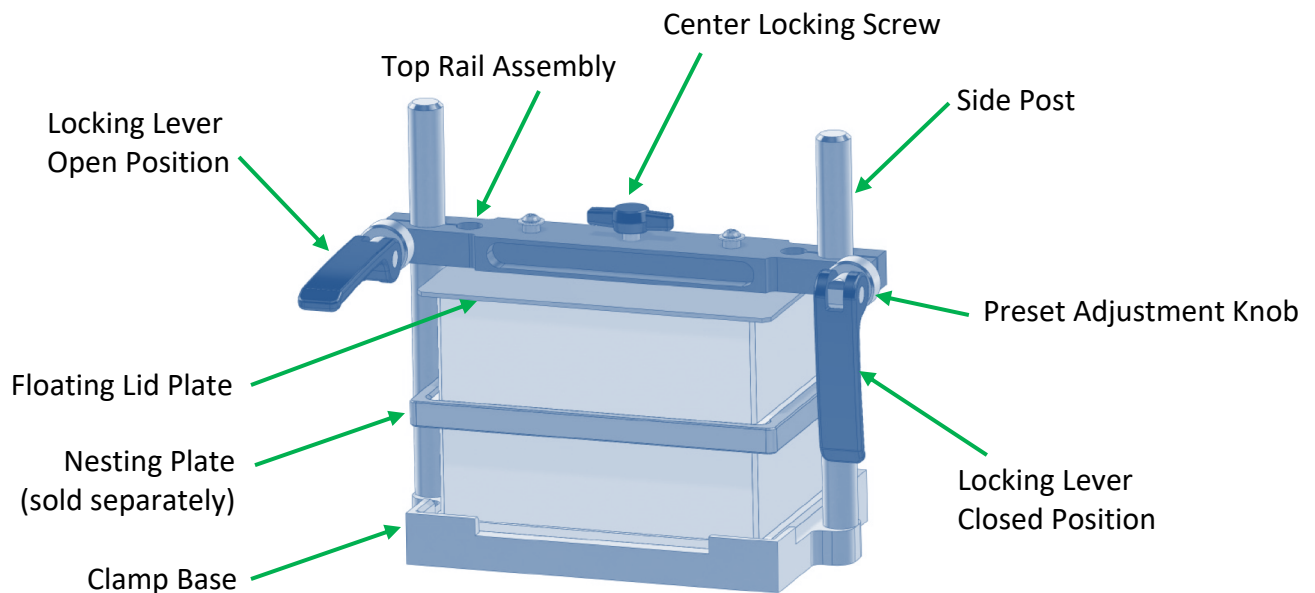

Figure 3 – Loading Titer Plates
The HG-400 MiniG[®] is supplied with an adjustable clamp that can accommodate 1-2 titer plates or 1-2 trays of small vials. Follow the clamp loading procedure described below and illustrated in Figure 3.
1. Place a titer plate into the clamp base. When using two titer plates, place the nesting plate (sold separately) between them, as shown in Figure 3.